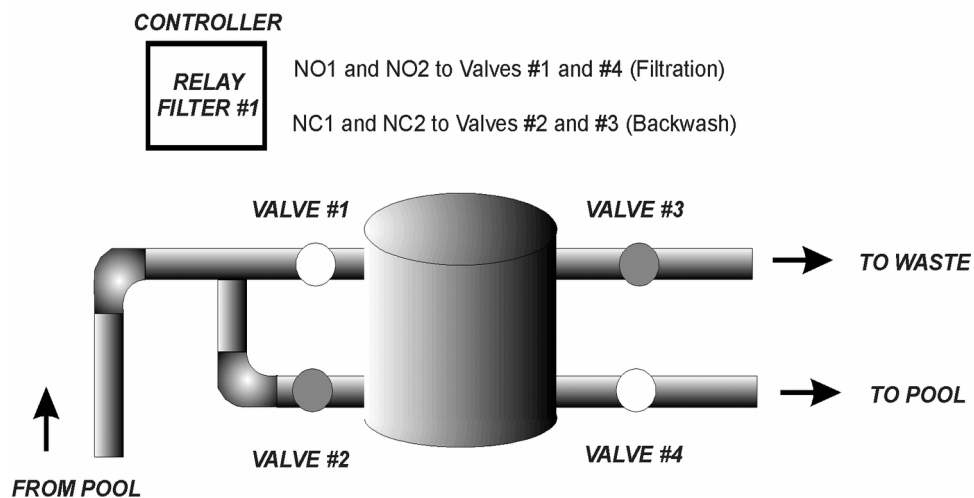

Figure 55. Single Filter Backwash
As shown in Figure 55, backwashing of a single filter is controlled with four valves that are connected to the Normally Open (NO) and Normally Closed (NC) poles of Filter Relay 1.